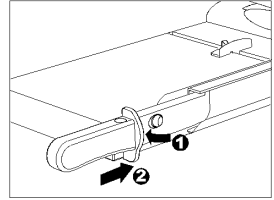

Fig. 4
- Press the arm lock downwards (Fig. 4/1).
- At the same time, slide the guillotine arm to the rear using the handle (Fig. 4/2).